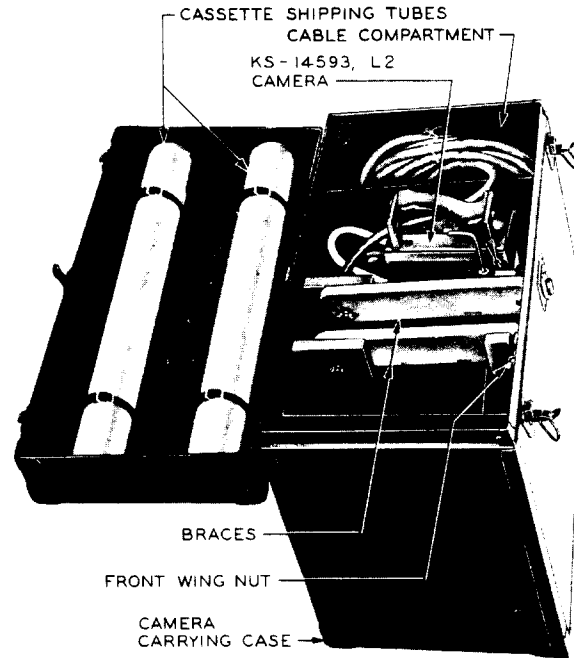

Fig. 1 – Camera in Carrying Case
1.03 The KS-14593 L1 message register camera consists of the KS-14593 L2 message register camera described in 1.04 through 1.08, and the KS-14594 power unit described in 1.09 through 1.11. Both the list 2 camera and the power unit are provided with carrying cases. The camera in its carrying case is shown in Fig. 1. The KS-14778 photo processor is described in 1.12 through 1.15.
1.17 The KS-16148 loaded cassette is wrapped with a spacer over each end of the cassette core to prevent impacts on the core during handling which might result in binding of the paper as it is drawn from the cassette. Five loaded cassettes are furnished in the shipping tube shown in the cover of the camera carrying case in Fig. 1. A label on the outside of the tube shows the expiration date and emulsion number of the paper in the tube.
4.01 Remove the camera from the carrying case as follows. Unlatch and swing back the cover of the carrying case. Loosen the front wing nuts on the two braces which hold the camera in the case, as shown in Fig. 1. Swing the braces away from the camera. Lift the camera from the case, taking care that the flash indicating windows on the camera hood do not strike the wing nut or bolt on the adjacent vertical portion of the brace in the case. Place the camera on the floor or on a suitable support convenient to the location where it is to be used.
5.10 If additional photographs are not to be taken, mount the empty cassette in the trigger side of the camera to insure that a cassette with a magnetic insert will be available when the camera is next used. Mount the cover on the camera. Remove power from the power unit. Unscrew the camera cable plug locking ring and remove the plug from the jack on the power unit. Place the camera and power unit in their carrying cases. When placing the camera in its case, take care to position it so that the brace farther from the cable compartment engages both portions of the hood of the camera (Fig. 1). This position of the camera will prevent distortion of the hood by the brace. Also, make sure that the camera pilot lamp cap clears the vertical portion of the adjacent brace in carrying cases in which the brace is not notched at this point.